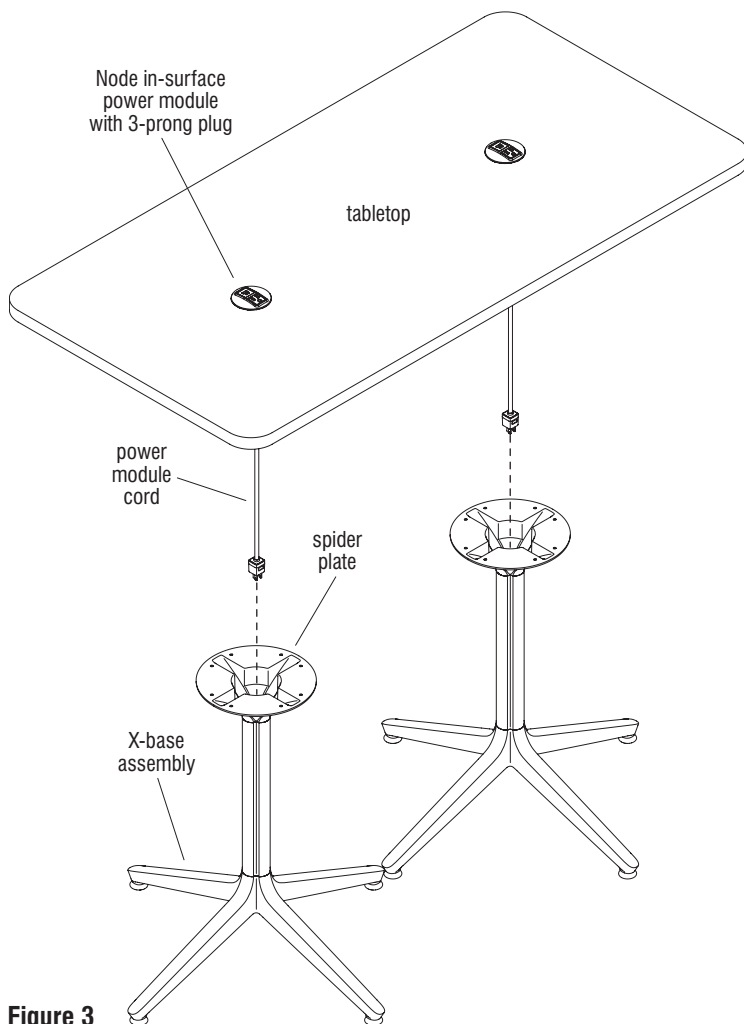

Figure 3
4. Carefully turn both X-base assemblies to the upright position on the floor (Figure 3).
5. With the assistance of a second person, have one person hold the tabletop above the X-base assemblies, while the second person inserts the 3-prong plug end of the Node in-surface power modules down the hole on top of each spider plate on the X-base assemblies. Continue to route the cord down each leg column, while also lowering the tabletop down onto the spider plates, until both 3-prong plug ends exit the bottom of the leg columns and the tabletop fully rests on top of the spider plate (Figure 3).